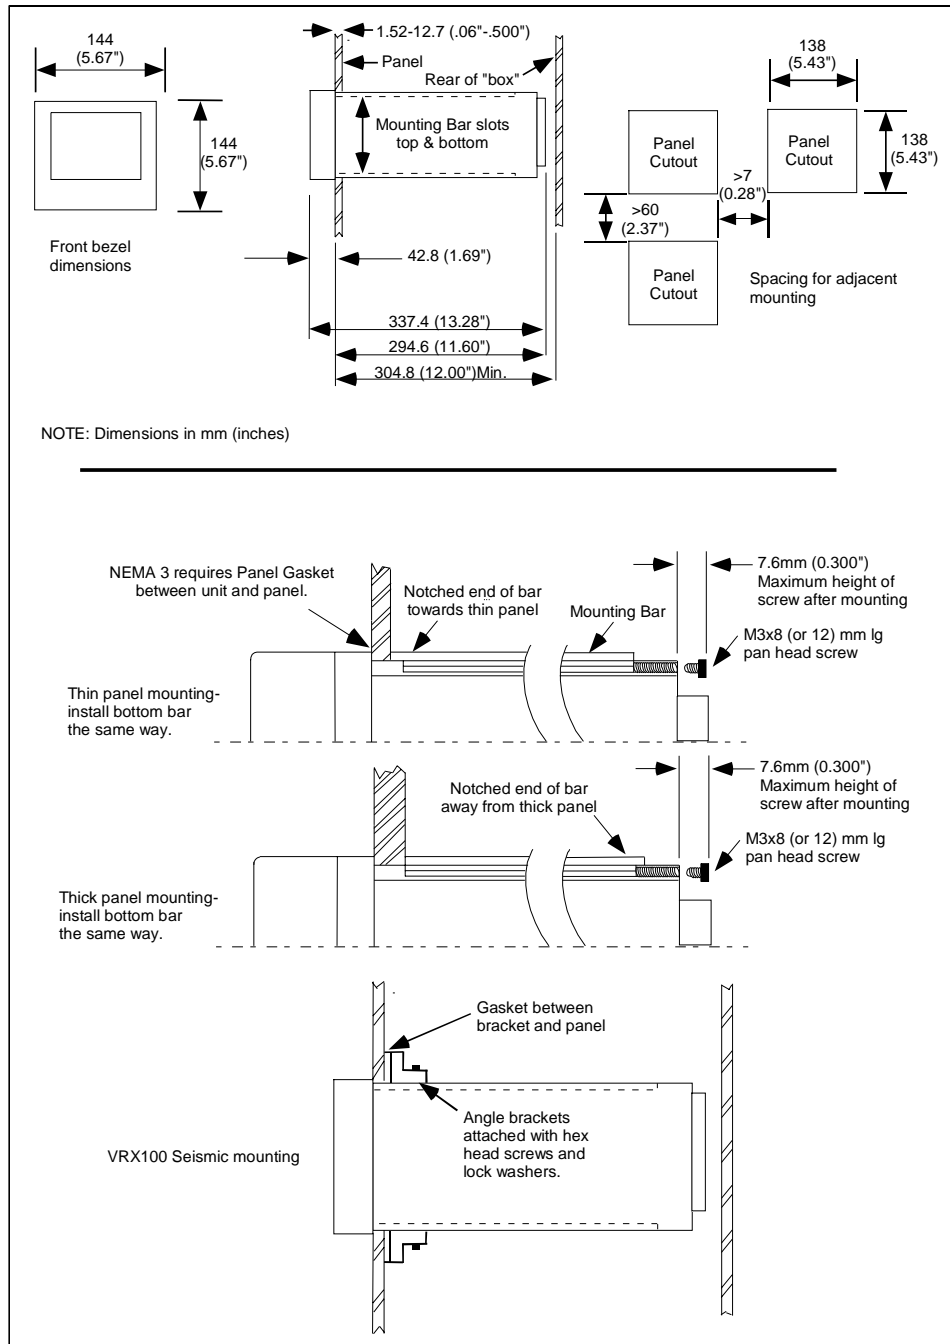
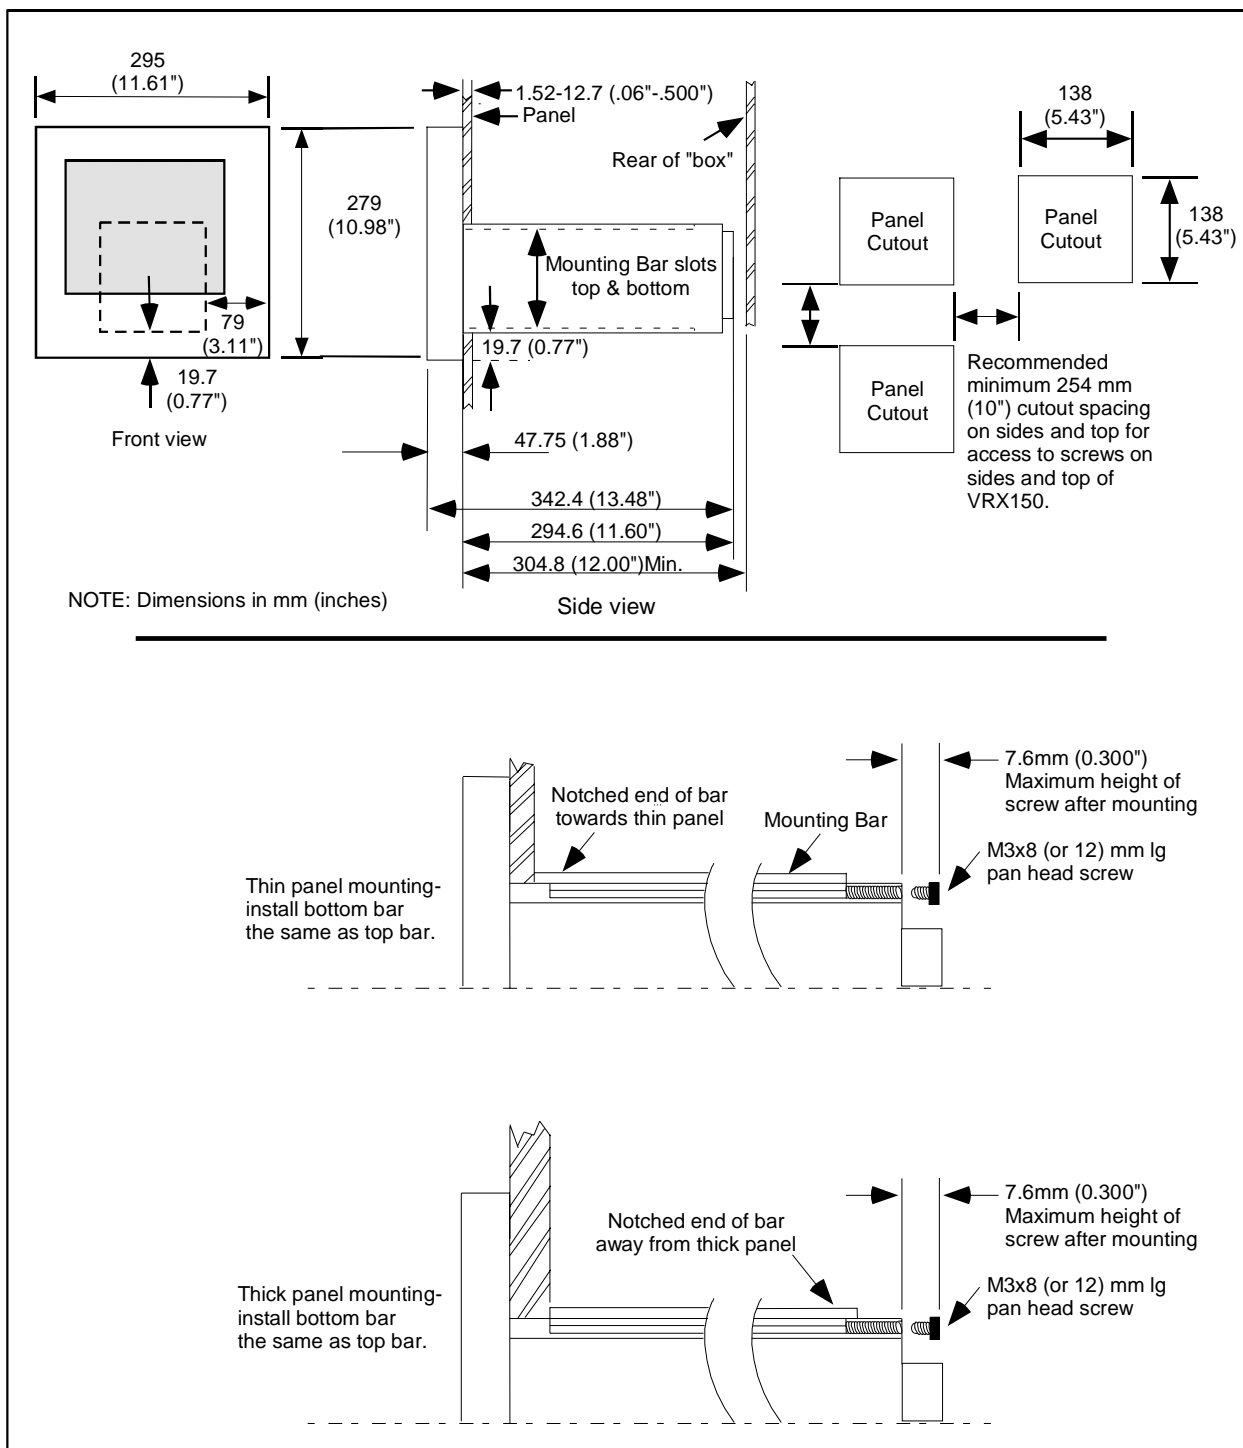

Figure 2-1 VPR100 & VRX100 Mounting
Figure 2-2 VRX150 Mounting
Figure 2-1 illustrates how the instrument is attached to a panel. Make the panel cutout as shown in Figure 2-1. Note that the panel may be up to 19.05 mm (0.75") thick.
1	Place the instrument in the panel cutout as shown in Figure 2-1 or Figure 2-2.
4. See Figure 2-1. Place the recorder in the panel cutout. While holding the unit from the front of the panel, attach the top & bottom angle bracket to the aluminum case using (4) M4 Hex Head screws & lockwashers. Torque M4 screws to 7 in-lb.